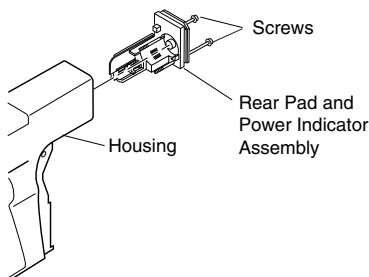

Figure 6 - Removing Rear Pad and Power Indicator Assembly
2. Pull rear pad and power indicator assembly out of housing (see Figure 6).